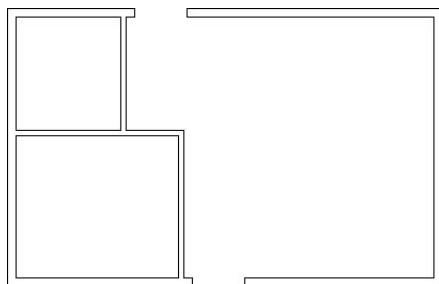

FIGURE 4.25: The finished 3'-0" openings
8. Each time you pick a line, it is trimmed. Press the spacebar or ↵ to end the command. Your drawing should look like Figure 4.25.